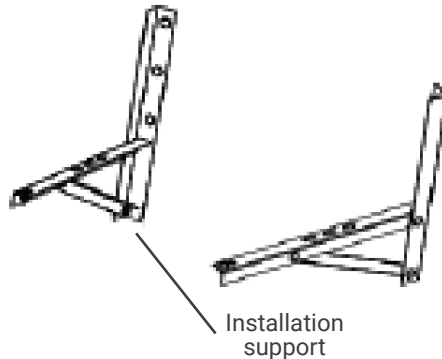

Fig.10
- If installation brackets for installing outdoor unit are needed, user could buy the brackets from our company or agents (Fig.10)